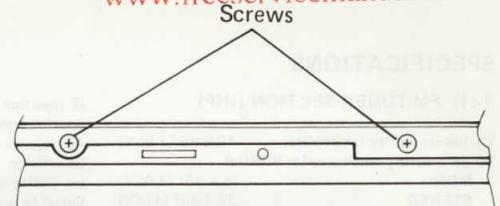

Figure 1
- (1) Remove the tuning knob with a 1.5mm Hex wrench.
- (2) Remove the 4 screws securing the front panel to the unit.
- (3) The panel can now be removed.
- When reinstalling, if the LED's do not go inside the panel, remove two screws as shown in figure 1. Next, install the panel, then insert the LED's, tighten the screws.